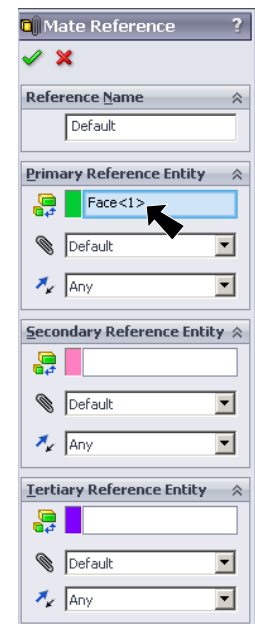

Fig. 17
Step 3. In the Mate Reference Property Manager click **OK** , **Fig. 17**.